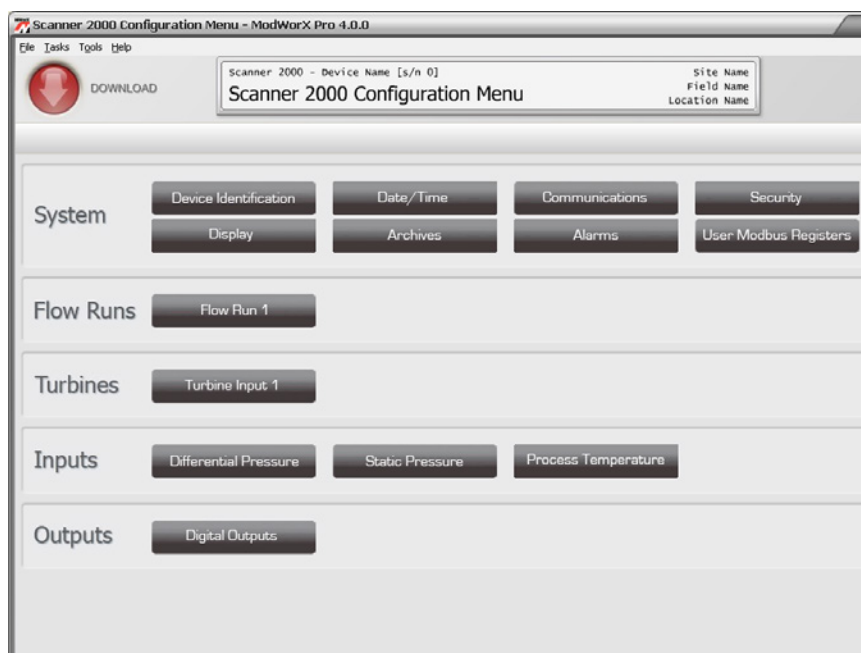

Figure 3.2
2. Then, click on the appropriate parameter in the System section of the Configuration Menu screen (Figure 3.2, page 32).